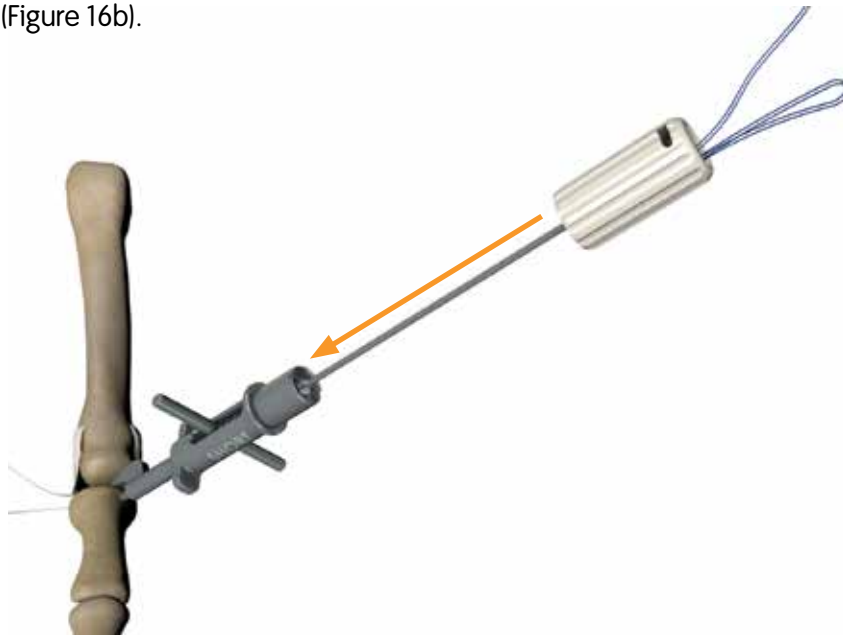
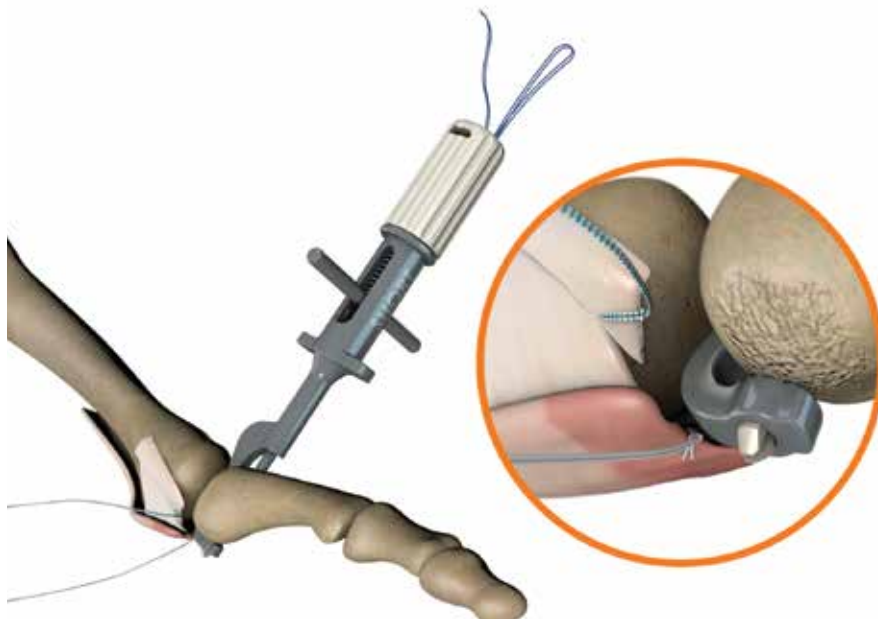

Figure 16a
Figure 16b
3. Insert the HAT-TRICK® Suture Shuttle assembly from the Unilateral Sterile Procedure Pack (REF 72204325) into the phalangeal drill guide (Figure 16a) until the suture shuttle bottoms out on proximal face of the drill guide (Figure 16b).